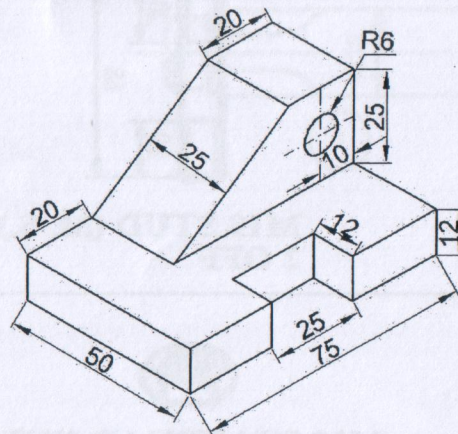

Figure 1
3. Draw the complete orthographic views (3 views) of the given object (figure 1). 30